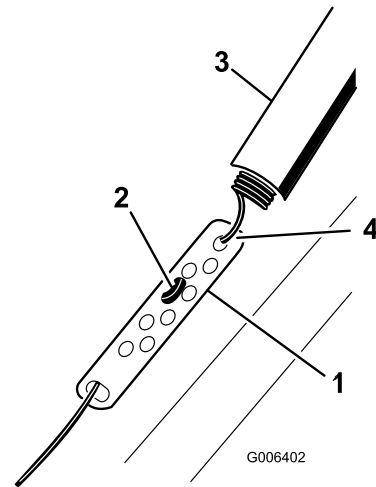

Figure 24
1. Slide up the spring cover and unhook the spring from the adjuster link (Figure 24).